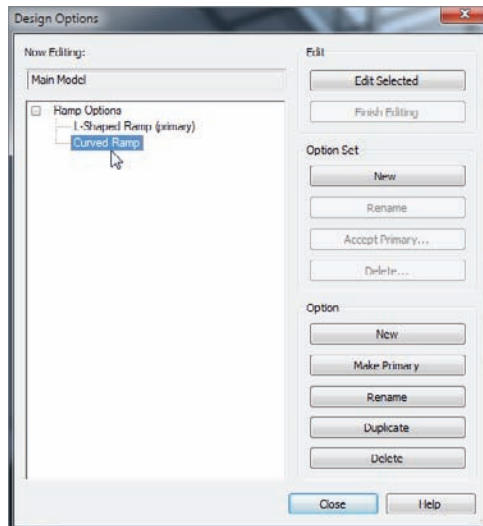

FIGURE 21.10 Adding options
10. Rename the new option Curved Ramp (see Figure 21.10).